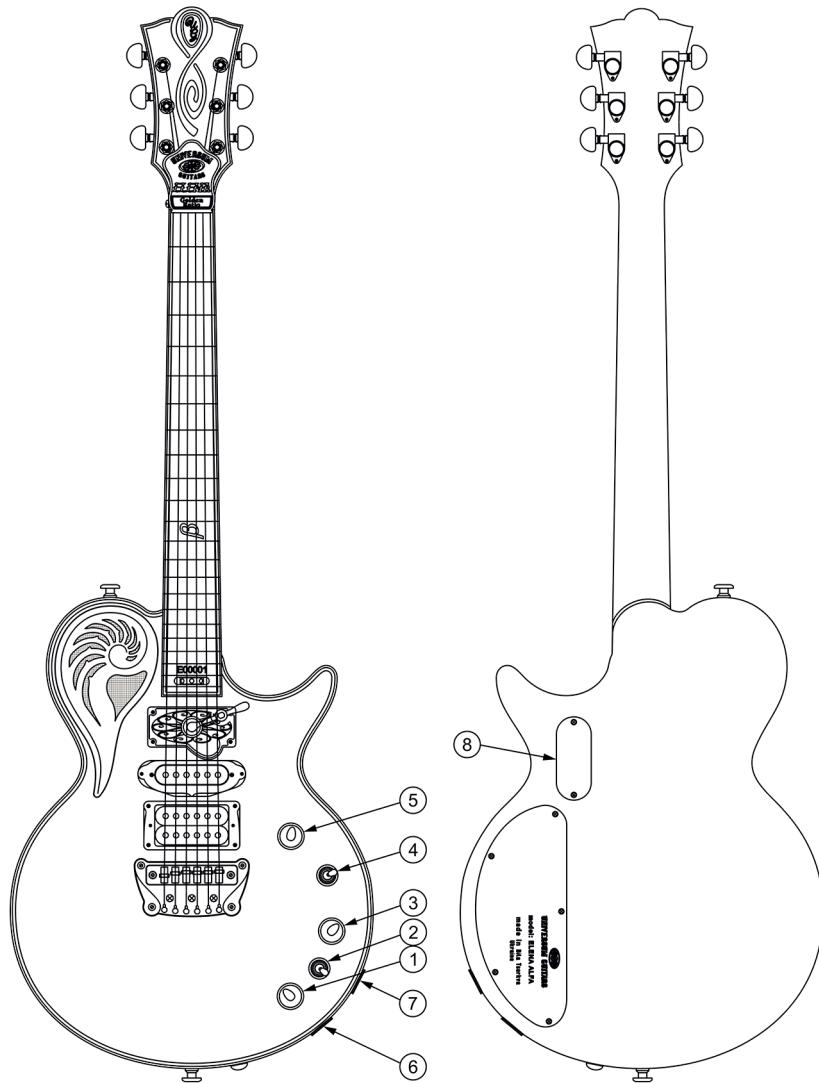

Fig.18
- Output connectors – acoustic (Fig.18 Pos.7) and electromagnetic connectors (Fig.18 Pos.6).
- Power supply element – 1 off (Fig.18 Pos.8).
- 1) Microphone pickup volume adjusting potentiometer handle (Fig.18 Pos.1). Controls microphone pickup volume in acoustic (acoustic pickup) and combined (microphone and electromagnetic pickups) operation modes.
- 2) Three-position switch-mixer handle (Fig.18 Pos.2):
- 3) Tone adjusting potentiometer handle of electric guitar electromagnetic sound (Fig.18 Pos.3);
- 4) Three position switch-selector (Fig.18 Pos.4): switches the combinations of electromagnetic pickup commutation.
- 5) Electric guitar volume adjusting potentiometer handle (Fig.18 Pos.5) in electromagnetic operation mode (electromagnetic pickups).